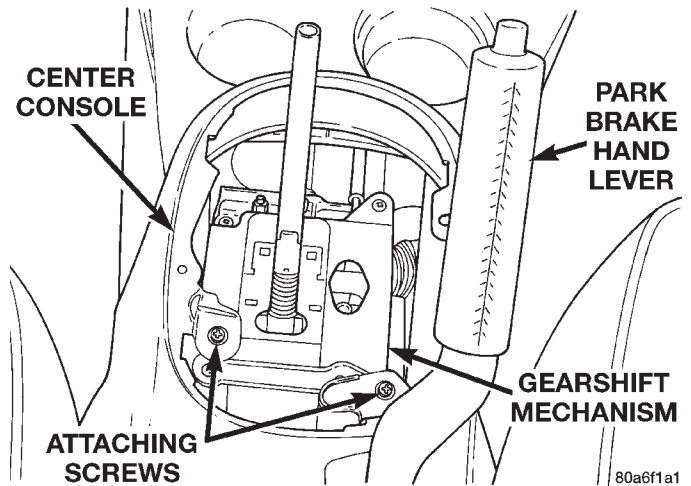
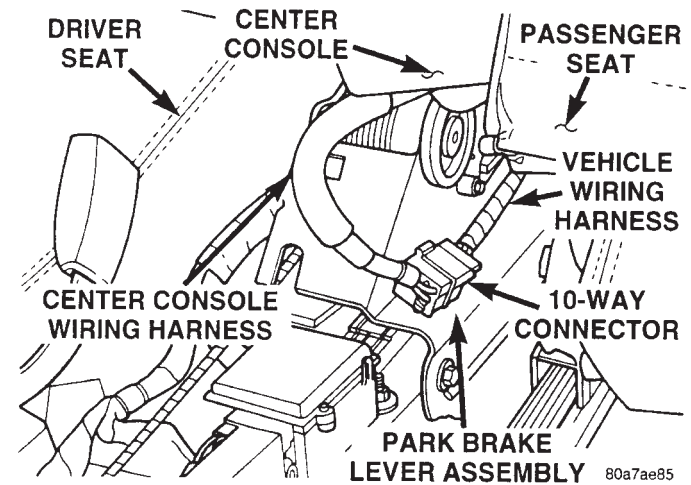
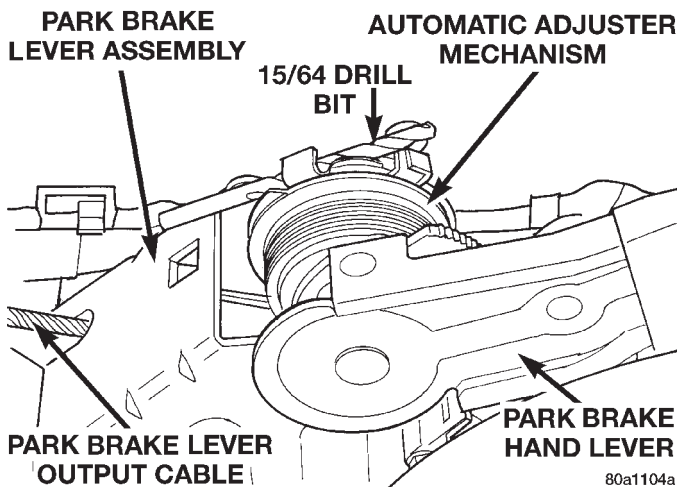
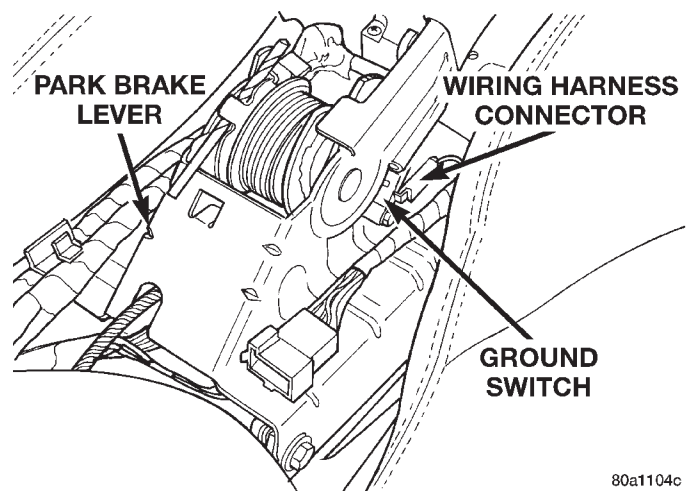

Fig. 123 Center Console Front Attaching Screw
Fig. 124 Console Wiring Harness Connector
Fig. 125 Park Brake Lever Correctly Reloaded
Fig. 128 Wiring Harness Connection To Ground Switch
- (4) Remove the 2 screws (Fig. 123) attaching the center console to the shifter.
- (5) Raise the park brake hand lever to approximately a 45° angle. This is for the required clearance to remove the center console.
- (6) Raise the rear of the center console high enough to access the center console wiring harness connector (Fig. 124). Disconnect the center console wiring harness connector from the vehicle wiring harness 10 way connector (Fig. 124).
- (7) Remove the center console from the vehicle.
- (8) Lower park brake lever handle.
- (9) Reload the adjuster mechanism on the park brake lever using the following procedure.
- Ensure the park brake lever is in the **full down position** when attempting to pull on park brake lever output cable (Fig. 125).
- Grasp the park brake lever output cable (Fig. 125) by hand and pull upward.
- Continue to pull upward on cable until a 15/64 drill bit can be inserted in the adjuster mechanism as shown in (Fig. 125). This will lock-out the auto adjuster mechanism removing the tension from the park brake lever output cable. This will then allow the rear park brake cables to be easily removed from the equalizer.
(11) Disconnect the wiring harness from the ground switch on the park brake lever (Fig. 128).
(3) Unload the adjuster mechanism on the park brake lever using the following procedure.
- Grasp the park brake lever output cable by hand and pull upward until all tension is removed from the drill bit used to reload the adjuster mechanism (Fig. 125).
- Remove the drill bit from the adjuster mechanism of the park brake lever (Fig. 125).
(4) Clip the wiring harness to the park brake lever bracket.
(5) Install the wiring harness connector on the ground switch of the park brake lever (Fig. 128).
(6) Cycle the park brake lever once from the released position to the fully applied position and then back to the released position. This will position the park brake cables and fully adjust them to their proper tension.
(7) Check the rear wheels of the vehicle with the park brake lever fully released, they should rotate freely without dragging.
(8) Raise the park brake hand lever to approximately a 45° angle. This is necessary for the required clearance to install the center console.
(9) Install the center console back in the vehicle.
(10) Install the wiring harness connector for the center console into the vehicle wiring harness (Fig. 124).
(11) Install the 2 screws attaching the front of the center console to the shifter. (Fig. 123).